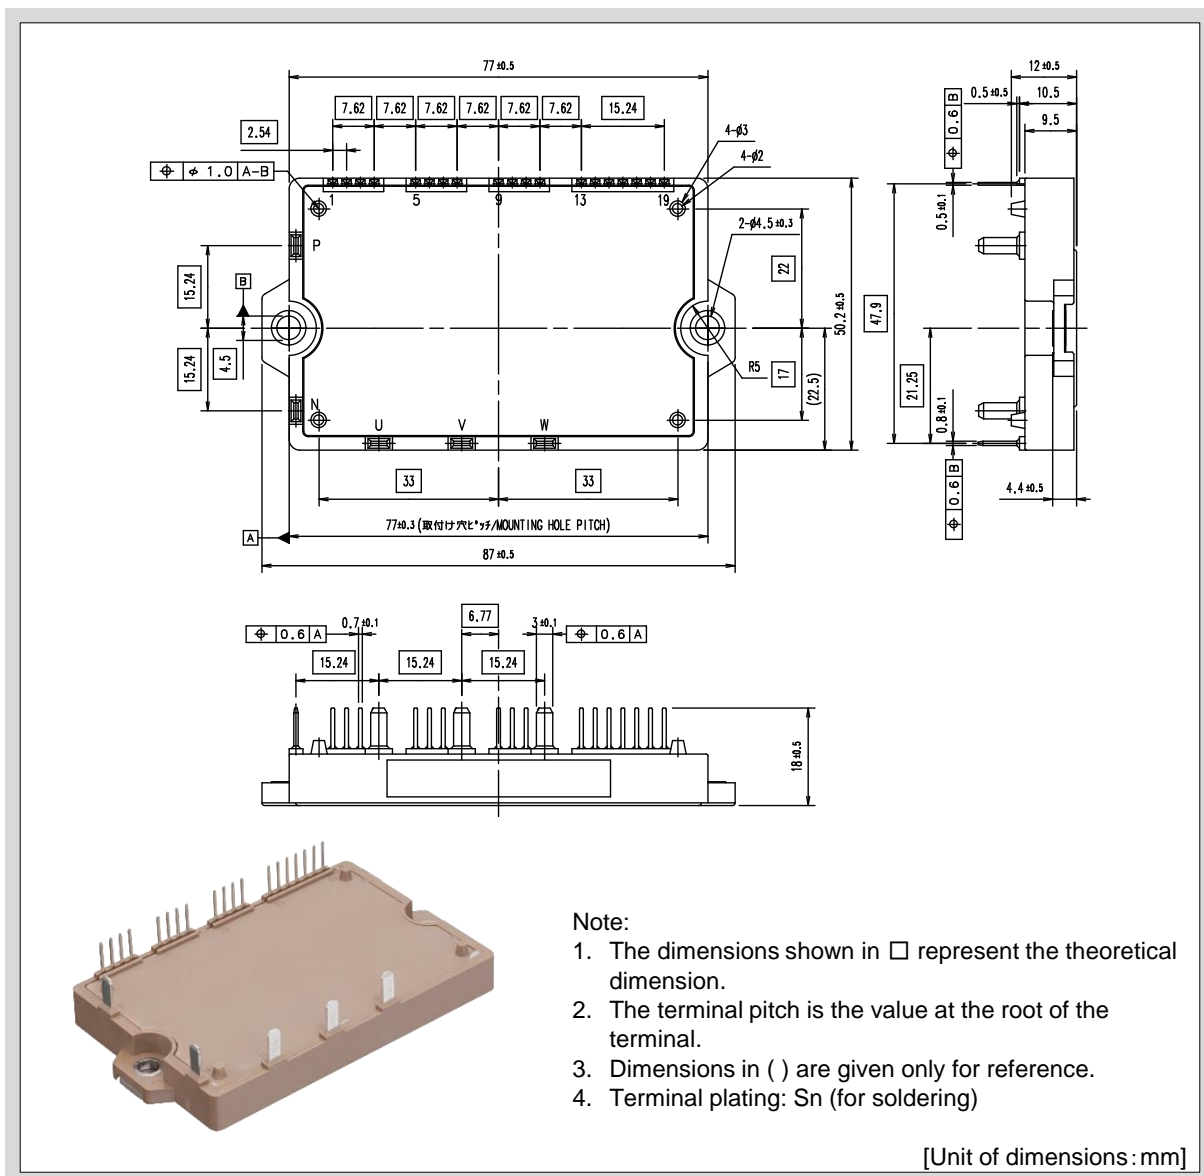

Fig.1-4 Package outline drawing (P626)
- The package outline drawing is shown in Figure 1-4.